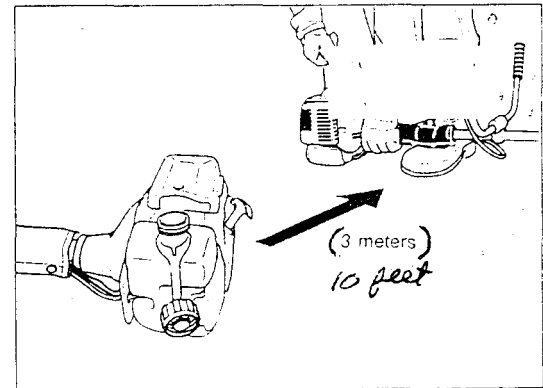

Fig16
- Select bare ground for fueling and move at least 10 feet (3m) from fueling spot before starting the engine (Fig. 16).